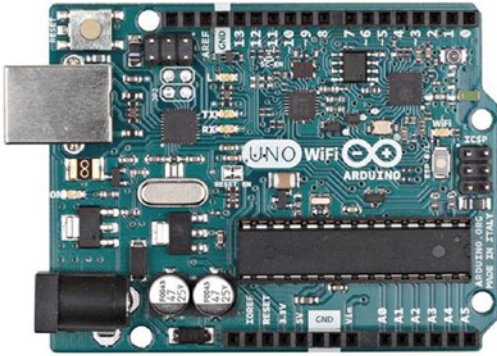

Figure 1-5. *Arduino UNO WiFi*
Arduino UNO WiFi is an Arduino UNO board with an additional chip (ESP8266). This chip can be used to connect existing WiFi networks and also can work as an access point (AP) node. Arduino UNO WiFi is manufactured by Arduino SRL. You can see the Arduino UNO WiFi form in Figure 1-5. To obtain more information about Arduino UNO WiFi, you can review it on this site: <http://www.arduino.org/products/boards/arduino-uno-wifi>.